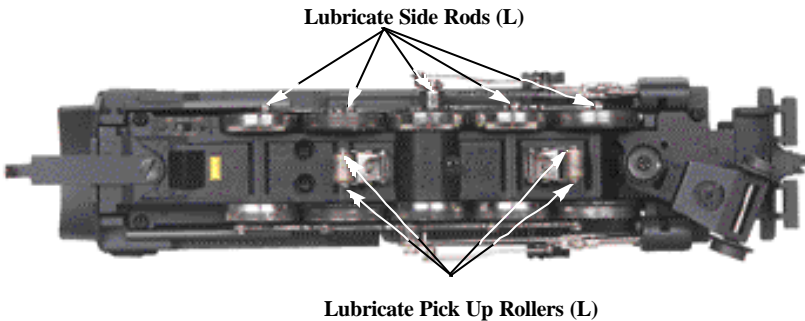

Figure 1 - Lubricating Engine
3. You should lubricate all side rods and linkage components and pickup rollers to prevent them from squeaking. Lightly grease the outside idler and drive gears (marked "G" in Fig. 1) to prevent them from squeaking. Use light household oil and follow the lubrication points marked "L" in Fig. 2 on page 4. Do not over-oil. Use only a drop or two on each pivot point.
You should regularly lubricate all side rods and linkage components and pickup rollers to prevent them from squeaking. Use light household oil and follow the lubrication points marked "L" in Fig. 1 on page 3. Do not over oil. Use only a drop or two on each pivot point.